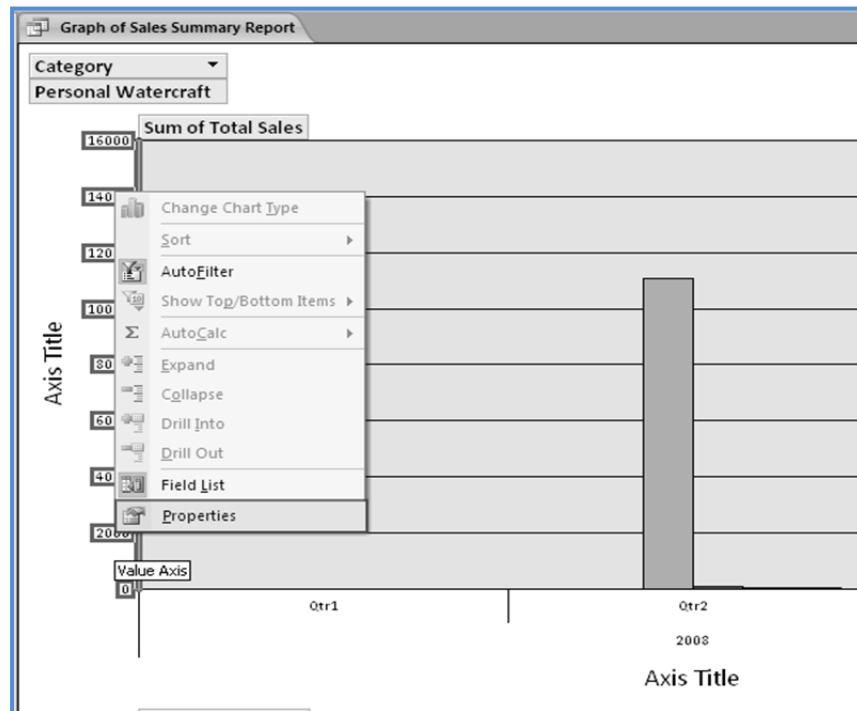

Fig. 1.2.67: Select properties for Y-Axis
1. Right-click on any value in Y-axis so the entire scale is selected and select **Properties** from the menu, as shown in Fig. 1.2.67.